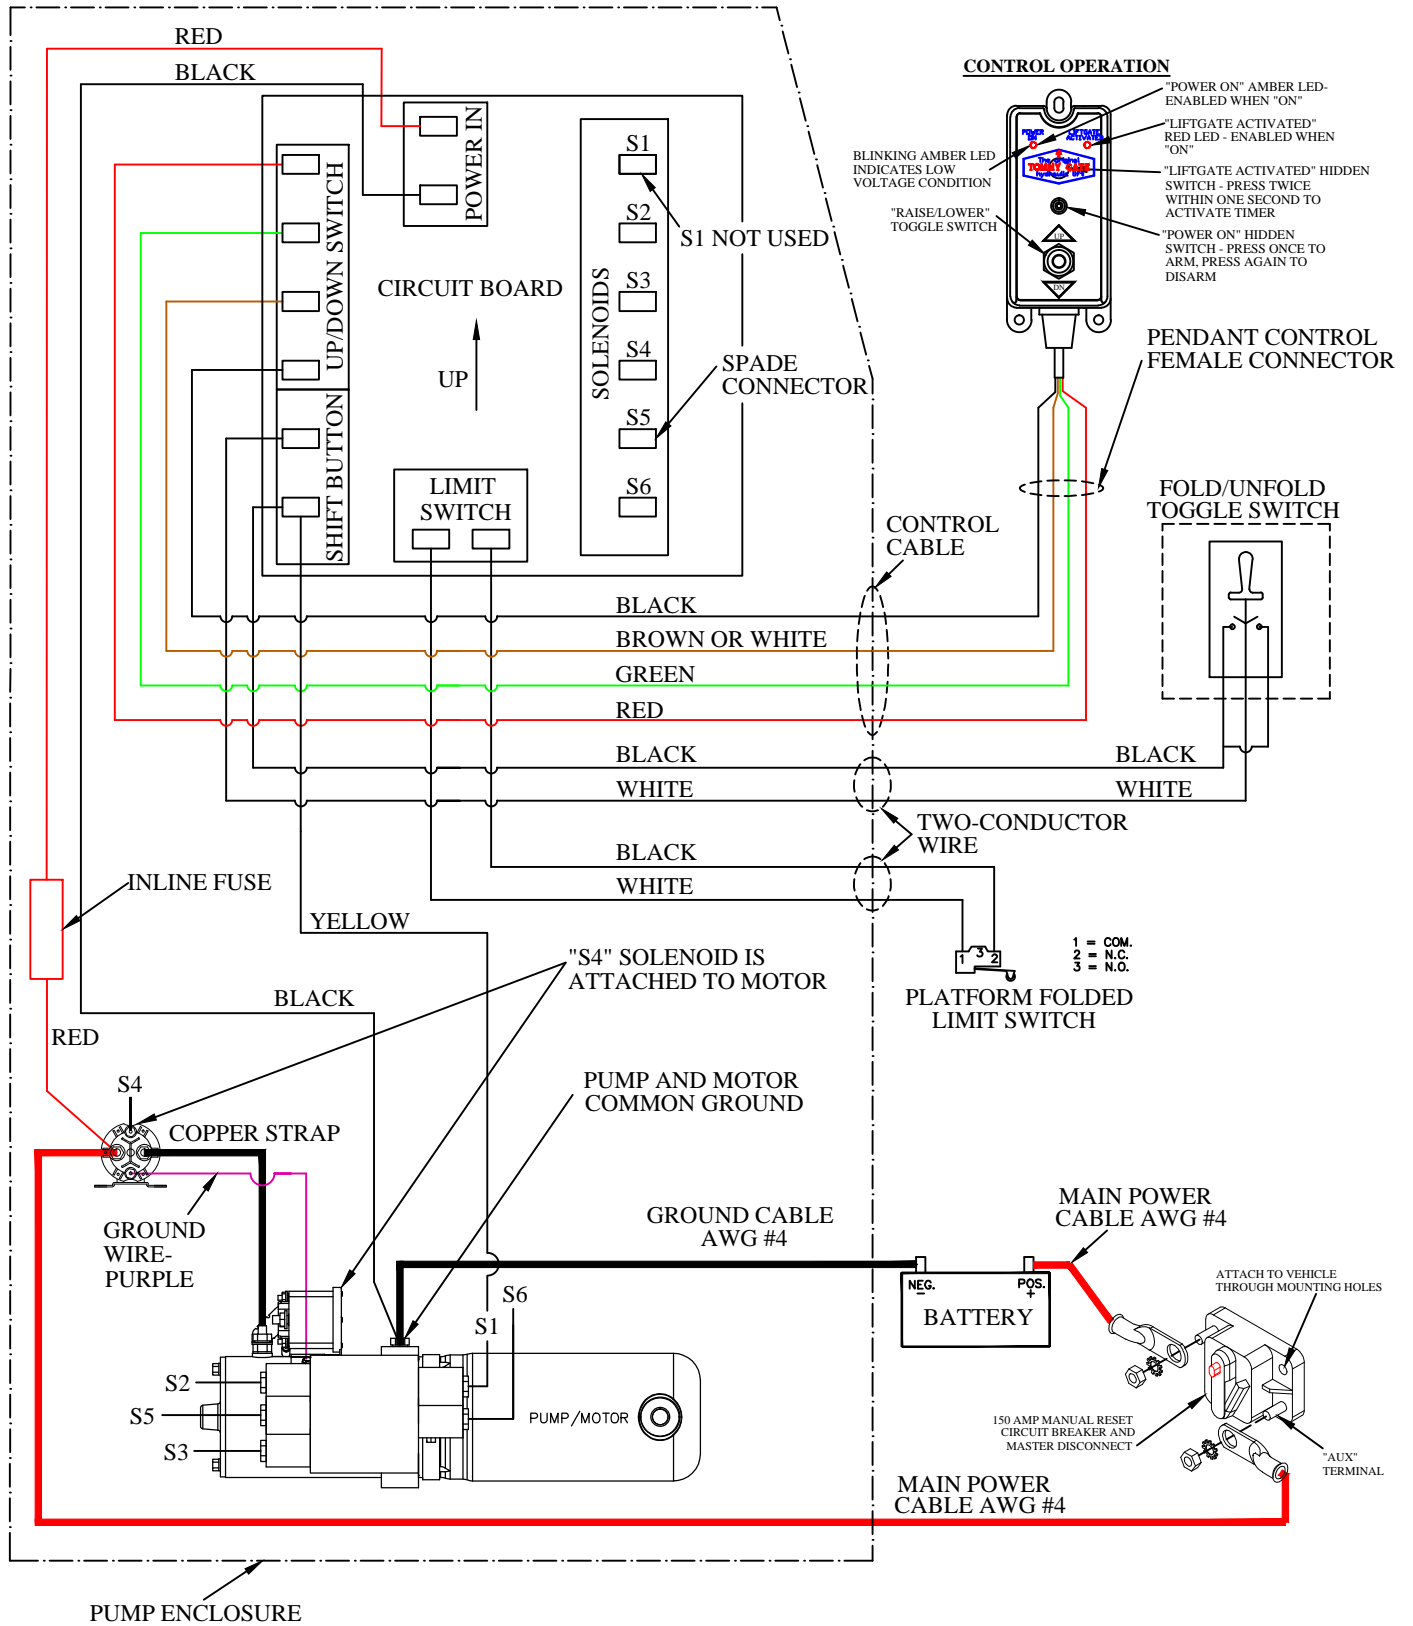

Figure 13: Wiring diagram.
9. Connect the circuit breaker and battery as outlined in the *Tommy Gate Recommended Electrical Wiring Guidelines* and wiring diagram (Figure 13).
11. Mark the two (2) small holes to be drilled in the door pillar using the mounting bracket as a guide.
13. Drill three (3) 13/64" holes in the locations previously marked.
15. Connect the wires to the toggle switch (Figure 13).
16. Install the supplied three (3) 1/4-20 self-tapping screws, through the mounting bracket, and into the door pillar.